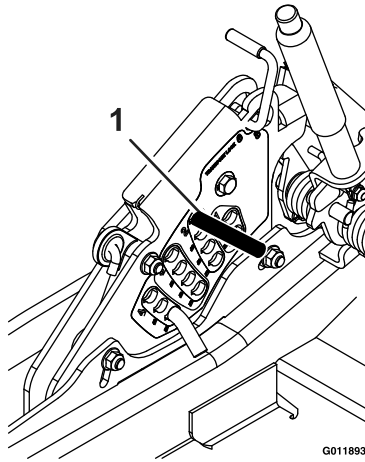

Figure 32
- D. Install a 1/2 x 6 inch (approx.) rod or bolt through the 2 inch height of cut hole (see Figure 32).